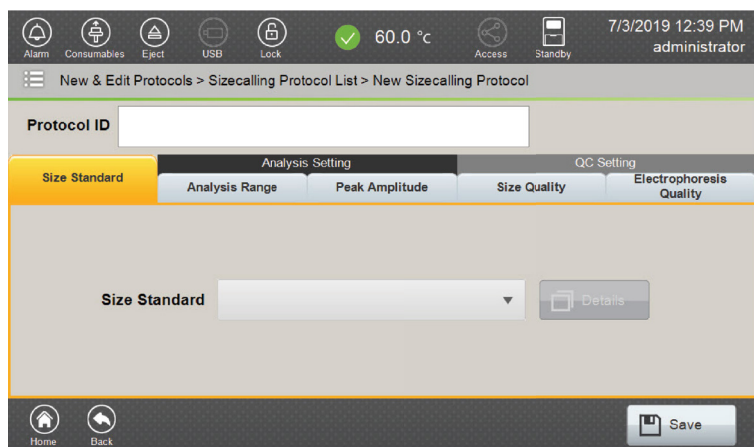

Figure 128. 'New Sizecalling Protocol' screen.
2. Select **Create** in the footer to open the 'New Sizecalling Protocol' screen (Figure 128). There are five tabs in the 'New Sizecalling Protocol' screen.
3. Enter a Protocol ID, and then select a pre-existing Size Standard Protocol from the drop-down list in the 'Size Standard' tab (Figure 128).